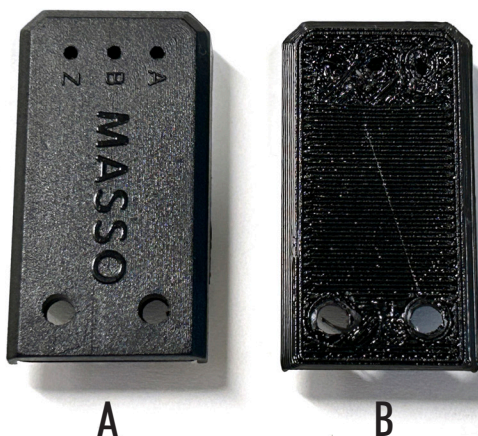
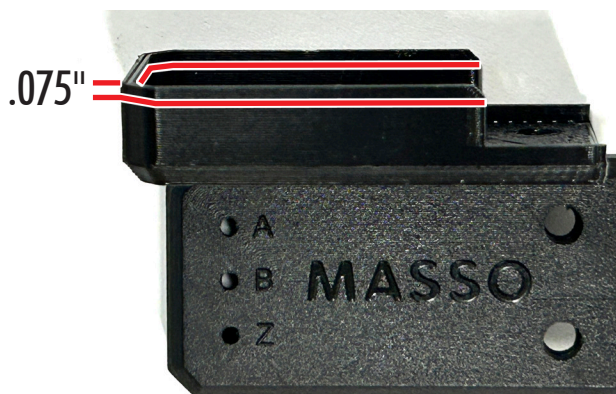

FIGURE 4—Showing the difference between the MASSO injection-molded cover (A) and the original 3D-printed cover (B).
FIGURE 5—The red lines show where to trim the .075" off of the 3D-printed cover. The 3D-printed cover has been turned on its side to show where to trim.
5. If you have the new MASSO injection-molded optical encoder cover, no further modifications are necessary (see Figure 4). If, however, you have an older 3D-printed optical encoder cover, you will have to trim .075" from the bottom of the 3D-printed cover (see Figure 5). This is to ensure the proper gap of .005"-.010" between the cover and the tach sticker shown in Figure 2.